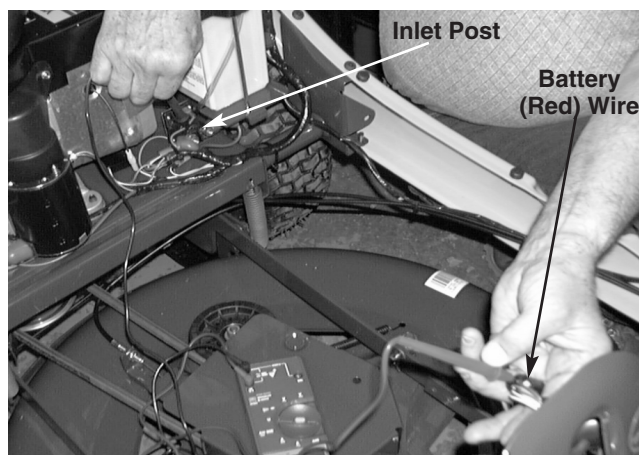

FIGURE 8.
–There will be **CONTINUITY**. See figure 8.